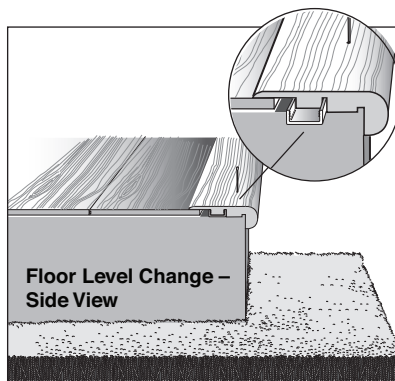

Fig. 33
8. Snap the step nose into the track and anchor the step nose with finish nails (Fig. 33).